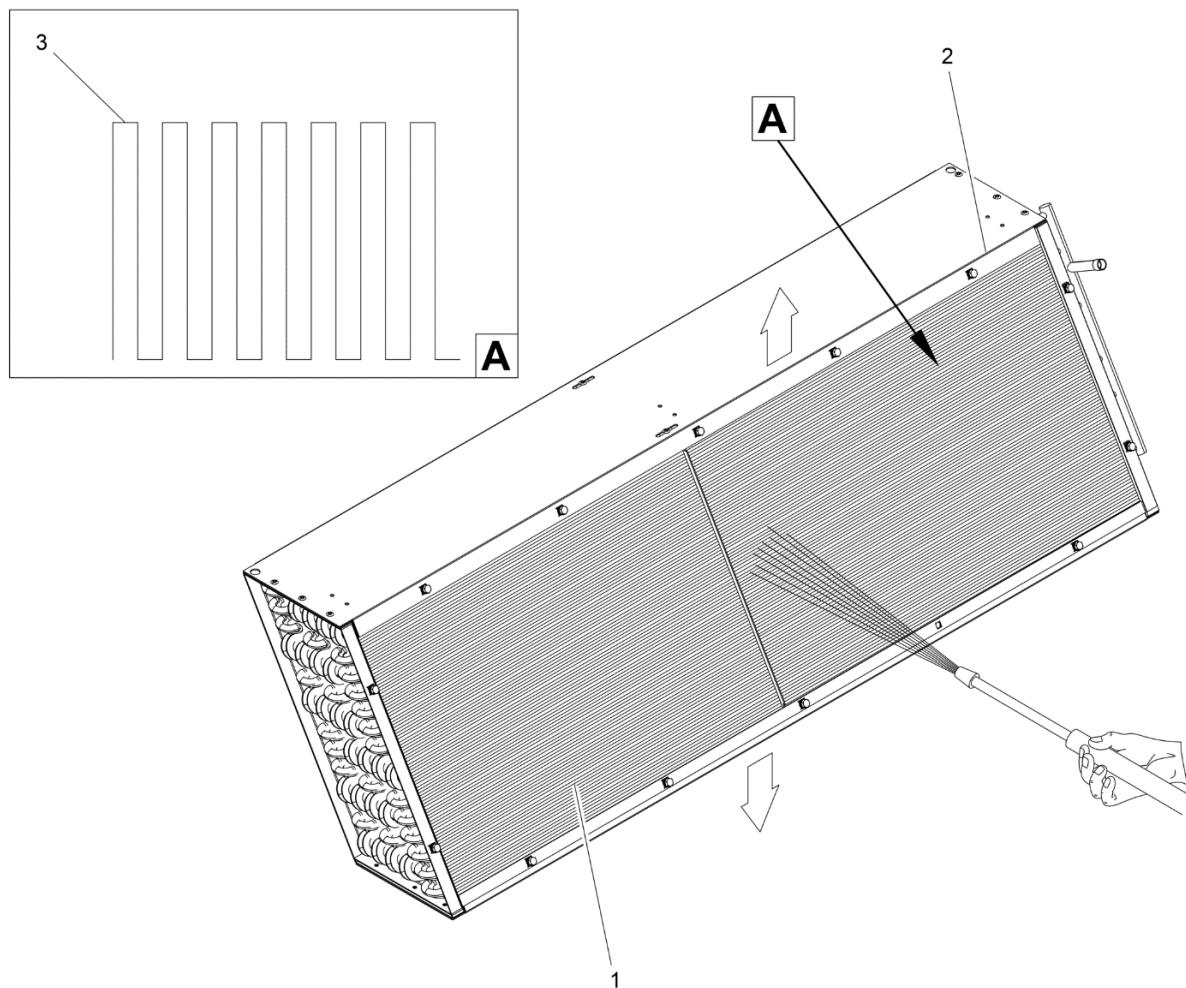

Figure 5-4: Annual Clean and Inspect Condenser Coil
Refer to Figure 5-4.
3. Use compressed air to remove any additional loose debris from coil fins (1). Using serpentine motion (3) as shown in Figure 5-4 force compressed air through condenser coil (2) to loosen debris trapped within fin block (1).
4. Use vacuum cleaner to remove all loosened debris from condenser coil (2) and HVAC unit.
6. Wash entire coil surface (1) with power washer, moving water jet in downward stroke, at a right angle (90°) to coil surface, following a serpentine motion (3) as shown in Figure 5-4.
8. Set power washer to hot clean water setting (0% detergent) and rinse entire condenser coil (2) until completely free of detergent.
10. Dry coils (1) with compressed air.